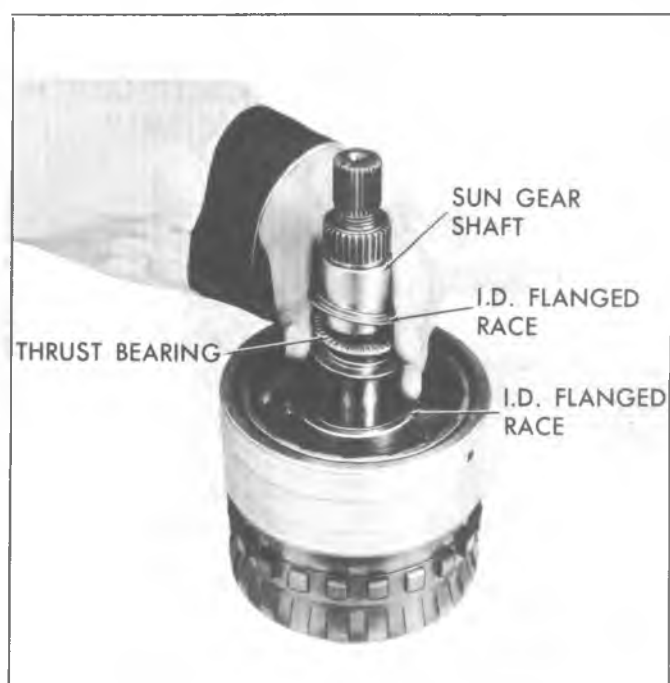

Fig. 7A-148C--Installing Center Support to Sun Gear Thrust Bearing and Races
13. Install front internal gear ring over output carrier (Fig. 7A-146C).